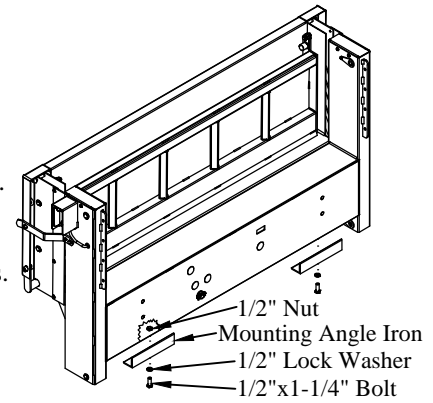

Figure 16: Mounting angle iron location.
- 1. Install** the two (2) mounting angle irons to the bottom of the liftgate (Figure 16).